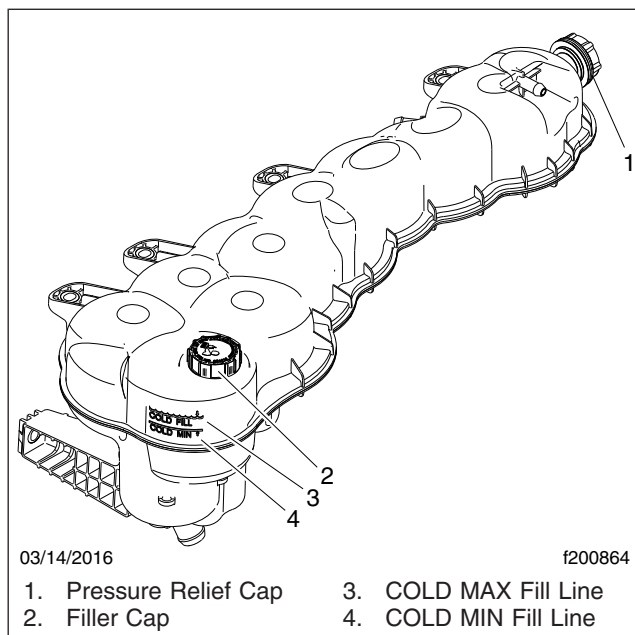

Fig. 22.6, Coolant Surge Tank
5. Check the engine coolant level in the radiator surge tank. See **Fig. 22.6**.